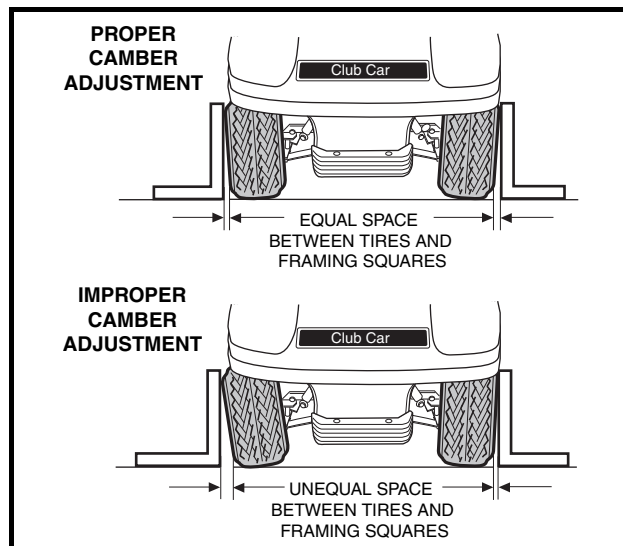
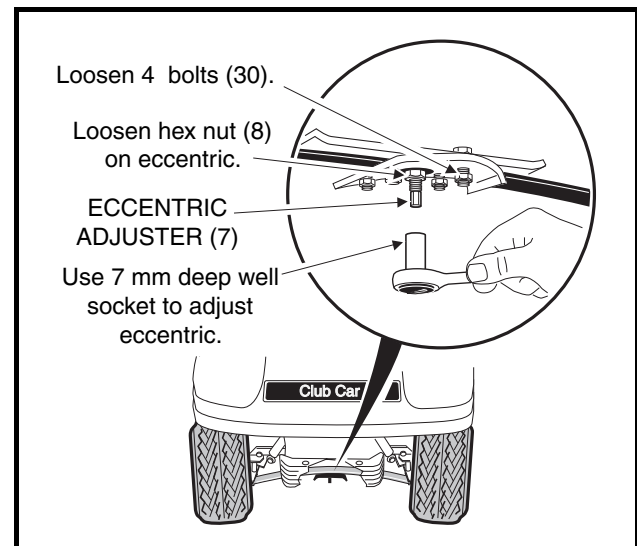
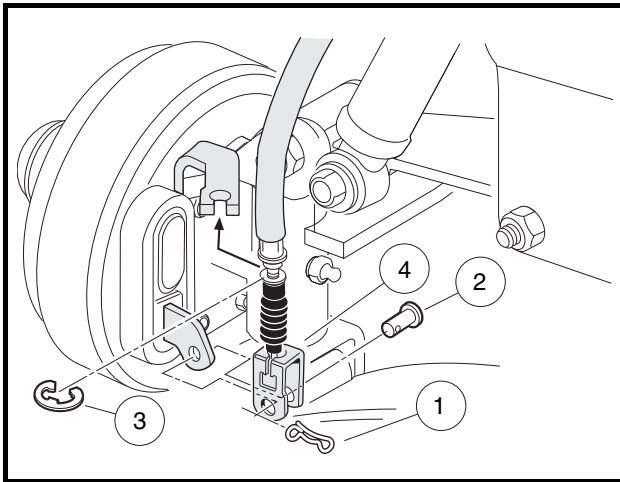
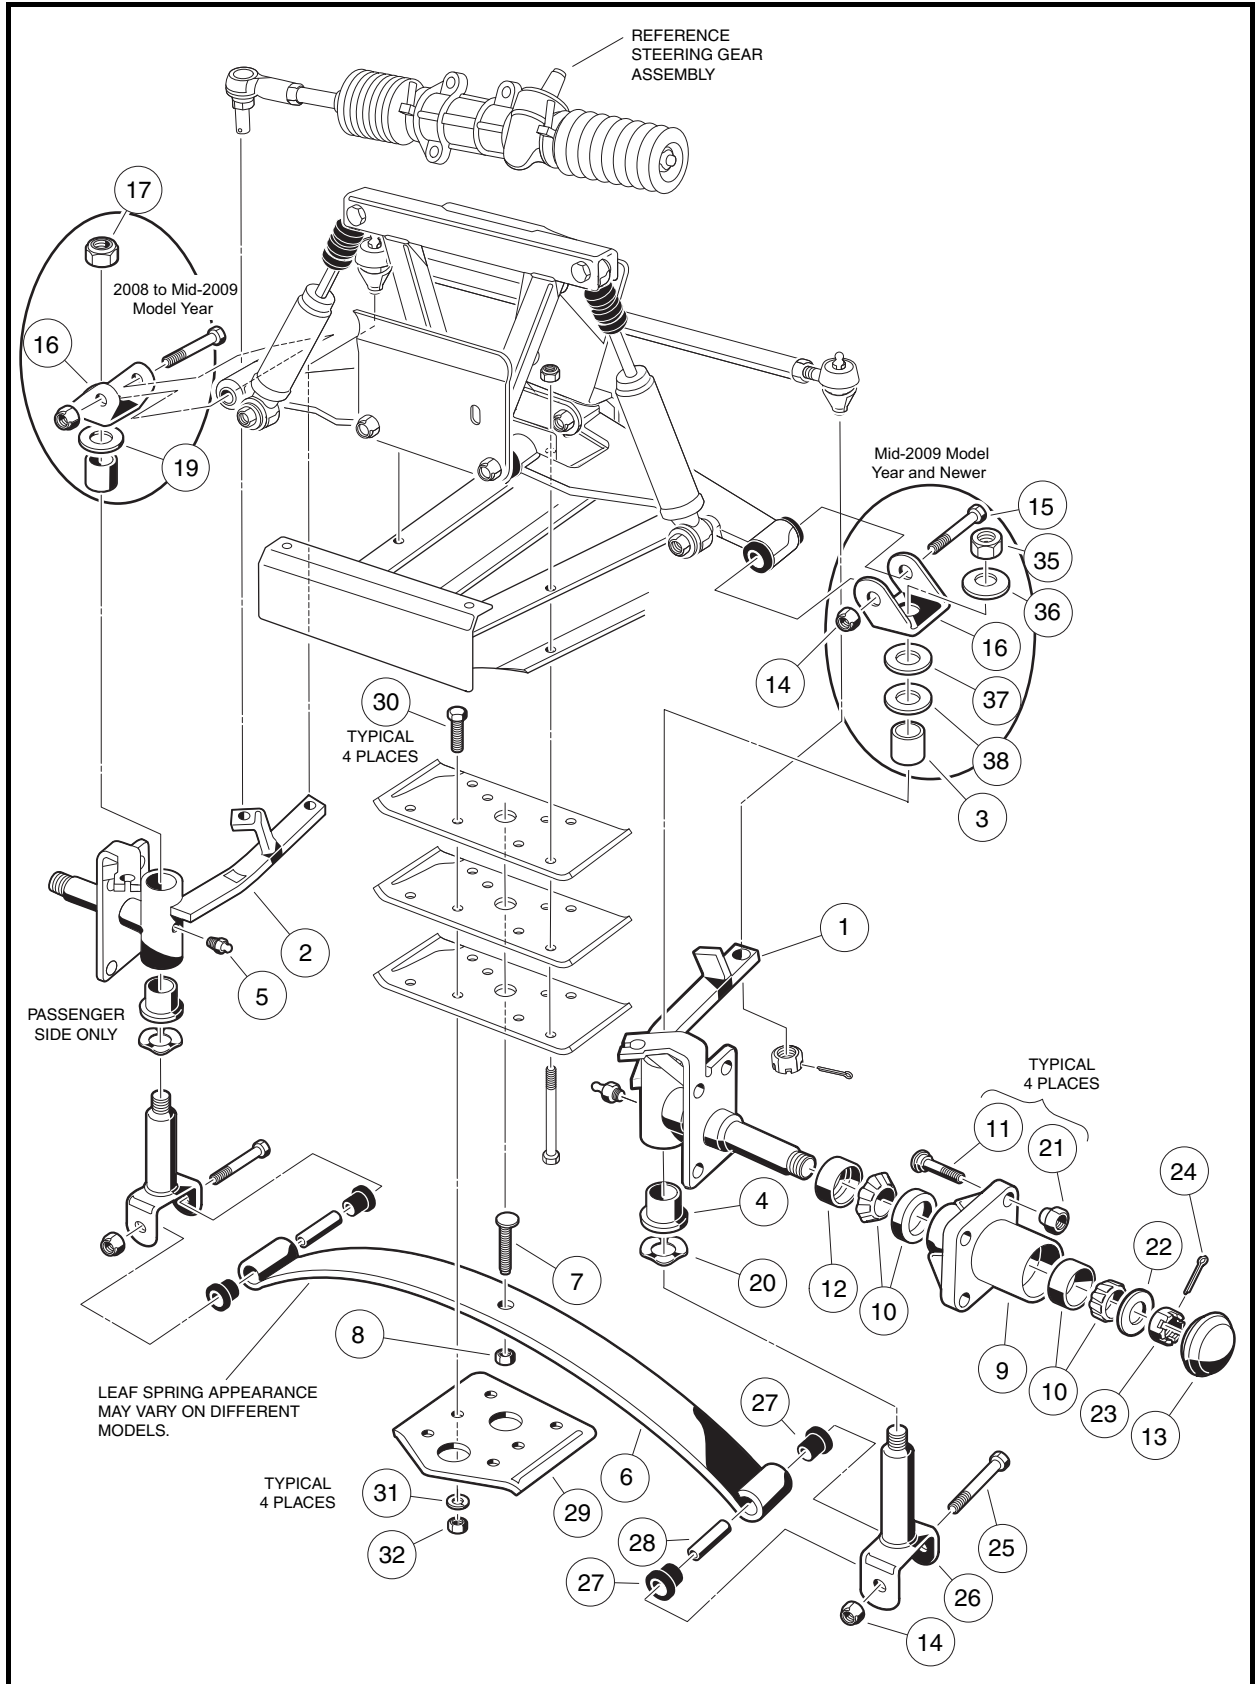

Figure 7-16 Check Camber
Figure 7-17 Adjust Camber
Figure 7-20 Connect Front Brake Cables
Figure 7-24 Four-Wheel Brake Vehicle – Lower Portion
1. Check each front wheel with a framing square. At the floor (or ground), there should be an equal amount of space between each tire and the framing square (**Figure 7-16, Page 7-16**).
2. Loosen, but do not remove, the four bolts (30) that secure the leaf spring (6) to the bottom spring plate (29) (**Figure 7-22, Page 7-21 or Figure 7-24, Page 7-23**). See also **Figure 7-17, Page 7-16**.
3. Loosen, but do not remove, the hex nut (8) on the adjustment eccentric (7) (**Figure 7-22, Page 7-21 or Figure 7-24, Page 7-23**) in the center of the spring. **See also Figure 7-17, Page 7-16.**
4. Use a 7 mm deep well socket to rotate the eccentric (**Figure 7-17, Page 7-16**).
5. After adjusting camber, tighten the four spring retaining bolts (30) (**Figure 7-22, Page 7-21 or Figure 7-24, Page 7-23**) to 23 ft-lb (31 N·m). Then roll the vehicle forward one full tire revolution and recheck the camber. **See also Figure 7-16, Page 7-16.**
6. Tighten the hex nut (8) on the adjustment eccentric (7) to 23 ft-lb (31 N·m) (**Figure 7-22, Page 7-21 or Figure 7-24, Page 7-23**). **See also Figure 7-17, Page 7-16.**
3. Remove the nuts (14) and bolts (25) from the bottom of each king pin (26) (**Figure 7-22, Page 7-21 or Figure 7-24, Page 7-23**).
4. Remove the four bolts (30), four nuts (32), four lock washers (31), and bottom spring plate (29).
5. Remove tapered leaf spring (6).
6. Check the condition of the urethane bushings (27) and steel sleeves (28). Replace any that are worn or damaged.
1. Install urethane bushings (27) and steel sleeves (28) into leaf spring eyes (**Figure 7-22, Page 7-21 or Figure 7-24, Page 7-23**).
2. Install tapered leaf spring (6), bottom spring plate (29), four bolts (30), four lock washers (31), and four nuts (32). Using a crisscross pattern sequence, tighten bolts to 23 ft-lb (31 N·m).
3. Install spring in king pins (26) with bolts (25) and nuts (14). Tighten to 23 ft-lb (31 N·m).
- 2.1. Remove the cotter pins (1), brake cable clevis pins (2), and cable retaining clips (3). Remove the brake cables (4) from the spindle brackets (**Figure 7-20, Page 7-19**).
- 4.1. Remove the nut (17) from the top of the kingpin (26) (**Figure 7-22, Page 7-21 or Figure 7-24, Page 7-23**).
- 5.1. Remove the nut (35) and conical washer (36) from the top of the kingpin (26) (**Figure 7-22, Page 7-21 or Figure 7-24, Page 7-23**).
2. Install the kingpin (26) over the leaf spring eye. Insert the bolt (25) and install the nut (14) (**Figure 7-22, Page 7-21 or Figure 7-24, Page 7-23**). Tighten the bolt to 23 ft-lb (31 N·m).
3. Install the wave washer (20) and steering spindle on the kingpin.
5. **For 2008 to mid-2009 model years:** Install the thrust washer (19), upper plate clevis (16), and nut (17). Tighten the nut to 40 ft-lb (54.2 N·m).
6. **For mid-2009 model year and newer:** Install the thrust washer (38), hardened flat washer (37), upper plate clevis (16), conical washer (36), and nut (35). Tighten the nut to 63 ft-lb (83 N·m).
8. **Vehicles with four-wheel brakes:** Connect the front brake cables on four-wheel brake vehicle in reverse order of disassembly (**Figure 7-20, Page 7-19**).